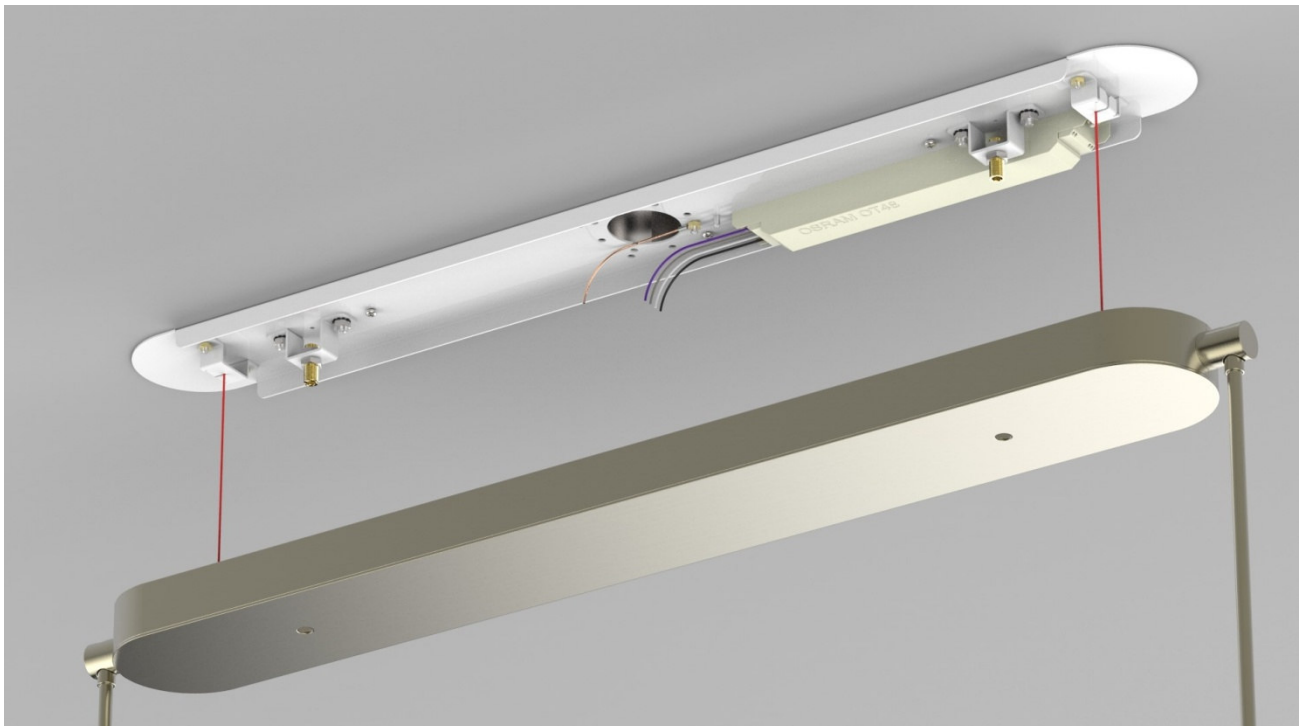

Figure 6
- Hook canopy support cables (shown red) onto mounting plate. (Figure 6)